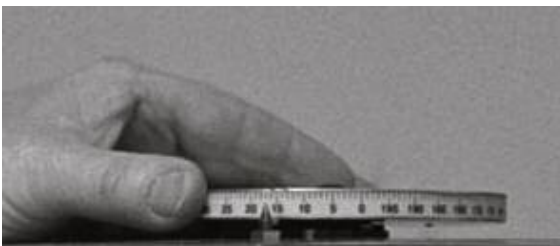

Figure 24
- b. Rotate graduated dial to that amount lined up with pointer (Figure 24)
7. While a dial indicator or a depth micrometer is used to measure a specific amount of material, the graduated dial (Figure 24 & 25) will give the operator an approximate amount of material removal. The readings of this dial will be influenced by both stock removal and wheel wear.